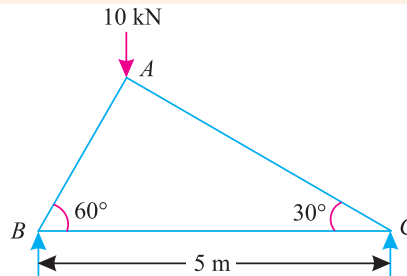

Fig. 14.3.
**Example 14.1.** The truss ABC shown in Fig. 14.3 has a span of 5 metres. It is carrying a load of 10 kN at its apex.